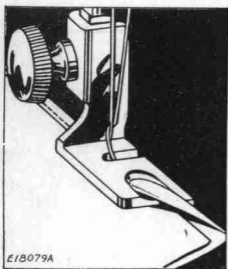

FIG. 37
(1) When making this seam, the garment must first be fitted and the edge of the material trimmed, allowing for about  $\frac{1}{8}$  inch seam. Insert the two edges of the material, right sides together, in the hemmer in the same manner as a single hem as shown in **Fig. 37**. If the material is bulky, place the edge of the upper piece of material about  $\frac{1}{8}$  inch to the left of the edge of the under piece.
(2) The free edge of the hemmed seam may be stitched flat to the garment, if desired. To do this, open the work out flat, wrong side up, then insert the hem in the scroll of the hemmer, holding the edge of the hem in position while it is being stitched. If the seam is stitched flat to the garment, one row of stitching is visible on the right side.